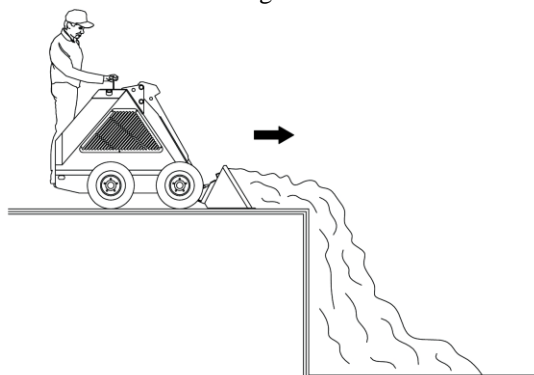

Fig. 18
1. When filling a trench or hole, either drive up to the hole with a filled bucket carried low or push material up to the edge as shown in Figure 18.